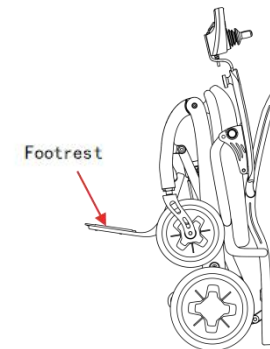

Figure 2
4.1.1 Push the footrest outward by hand to its maximum limit. (See Figure 2)